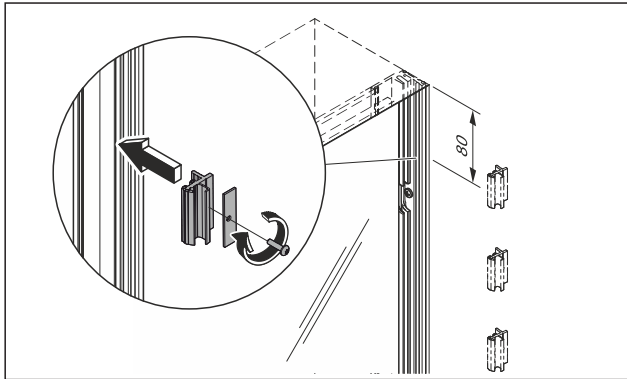

Fig. 35 Example of attaching clamping pieces to the vertical base profile and side panel
10. Maintain the distance between the clamping pieces of approx. 80 mm to the corner (Fig. 35)